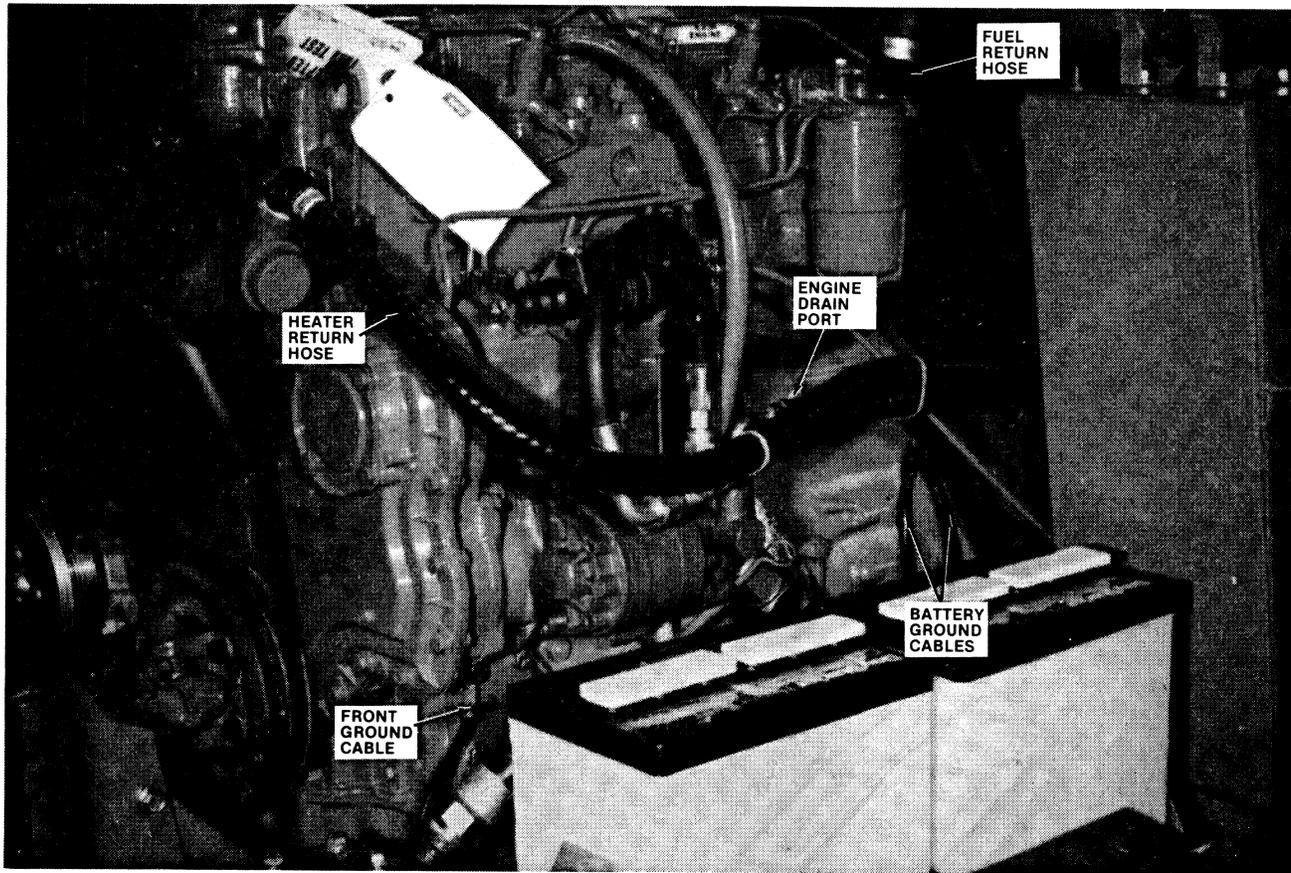
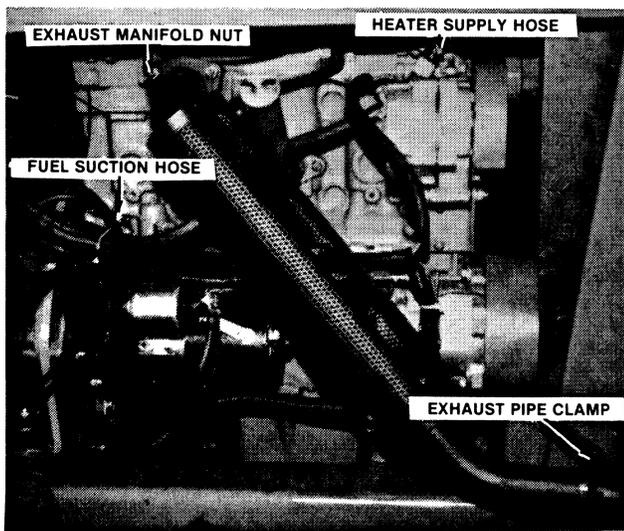

FIGURE 2-2: Engine Left Side
FIGURE 2-3: Engine Right Side
10. Drain engine coolant through radiator petcock and drain port (Figure 2-2).
15. Disconnect cab heater return hose (Figure 2-2) and supply hose (Figure 2-3) at engine connections. Cap ends and label.